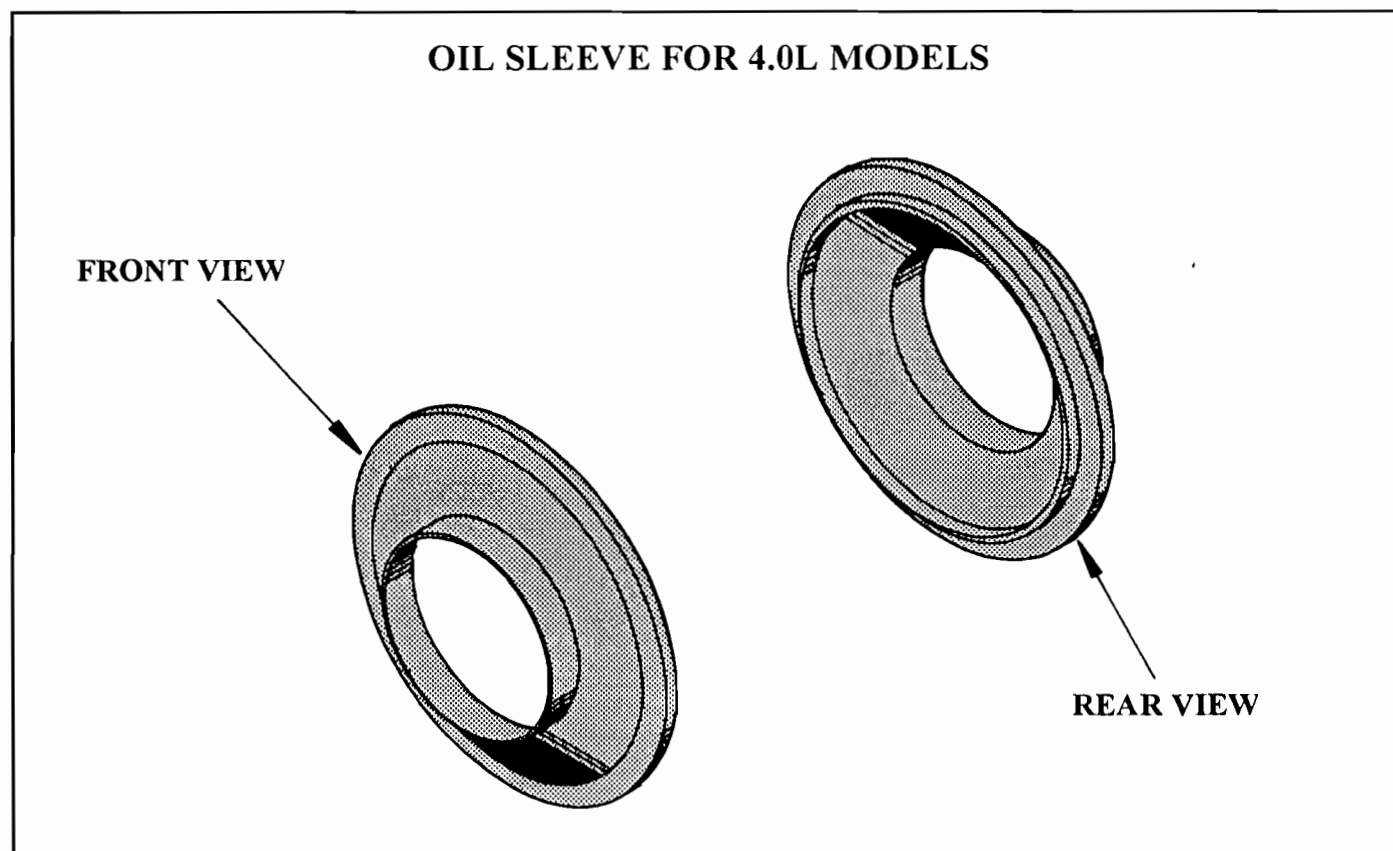

Figure 25
- (7) OIL SLEEVE - An added oil delivery sleeve, or lubrication guide, was added to the output shaft rear ring gear hub, to direct lube oil from the added grooves in the hub, through the sun gear to the front planetary gear set (See Figures 25 and 28).
- (8) OUTPUT SHAFT - The Output Shaft was revised in three areas: